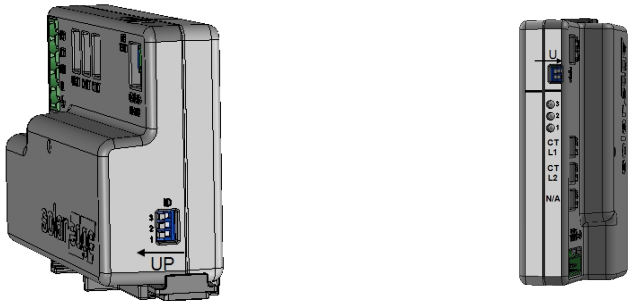

Figure 17: ID and termination DIP switches
7. In the meter, ensure the RS485-1 DIP switch is down. See *Figure 17*.